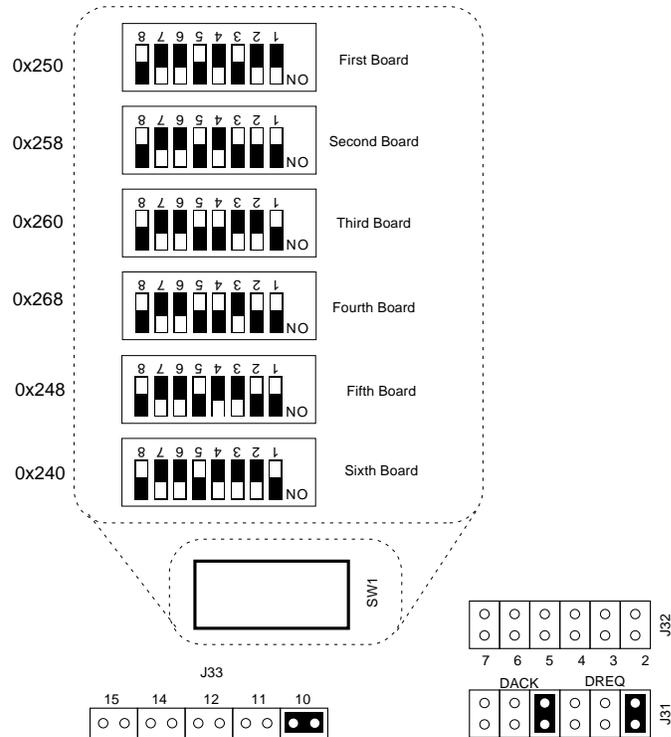

Figure A-25. IFP2 Switch and Jumper Settings
2. Check the I/O address DIP switch (SW1) settings on the board. The switches should be set as shown in Figure A-25. The default address is 250 Hex.